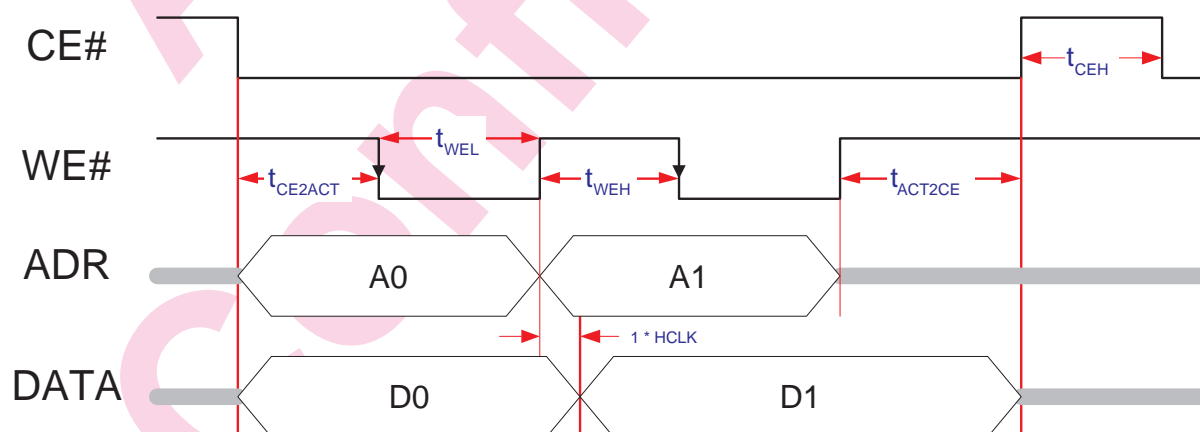

Figure 59: NOR Flash Write Timing
- Figure 59: NOR type flash normal write timing